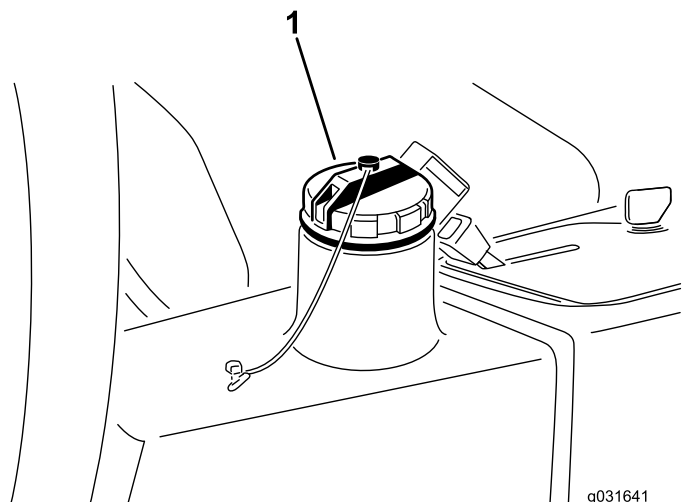

Figure 60
4. Fill the reservoir (Figure 60) with approximately 13.2 L (3.5 US gallons) of hydraulic fluid; refer to Hydraulic Fluid Specifications \(page 47\) and Checking the Hydraulic Fluid Level \(page 48\).